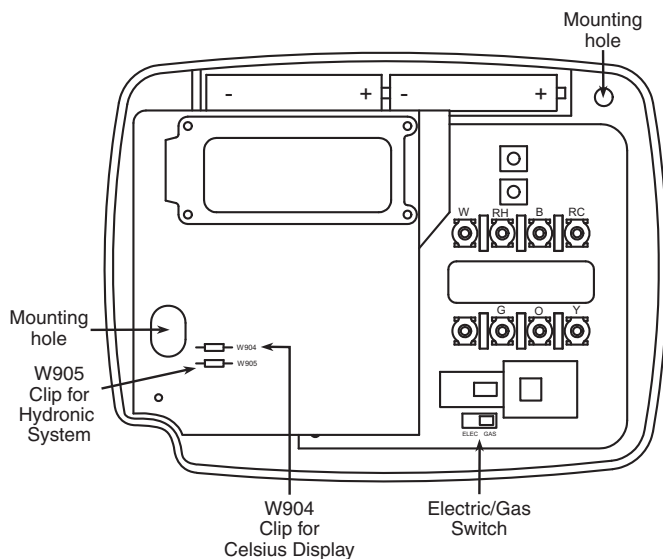

Figure 1. Thermostat base
This thermostat is configured from the factory to operate a heat/cool, fossil fuel (gas, oil, etc.), forced air system. It is configured correctly for any system that DOES NOT require the thermostat to energize the fan on a call for heat. If your system is an electric or heat-pump system that REQUIRES the thermostat to turn on the fan on a call for heat, locate the **GAS/ELECTRIC** switch (see fig. 1) and switch it to the **ELECTRIC** position. This will allow the thermostat to energize the fan immediately on a call for heat. If you are unsure if the heating/cooling system requires the thermostat to control the fan, contact a qualified heating and air conditioning service person.
5. Fasten base loosely to wall, as shown in fig. 1, using two mounting screws. Adjust until level, and then tighten screws. (Leveling is for appearance only and will not affect thermostat operation.) If you are using existing mounting holes, or if holes drilled are too large and do not allow you to tighten base snugly, use plastic screw anchors to secure subbase.
This thermostat requires 2 “AAA” alkaline batteries to operate. If “**LO BATTERY**” is displayed, the batteries are low and should be replaced. For best results, replace batteries once a year with new premium brand alkaline batteries such as Duracell® or Energizer®. To replace the batteries, install the batteries along the top of the base (see fig. 1). The batteries must be installed with the positive (+) ends to the right.
- **°F/°C CONVERTIBILITY** — The factory default setting is Fahrenheit. Clipping W904 jumper on the circuit board (see fig. 1) will alter this feature to Celsius temperature setting.